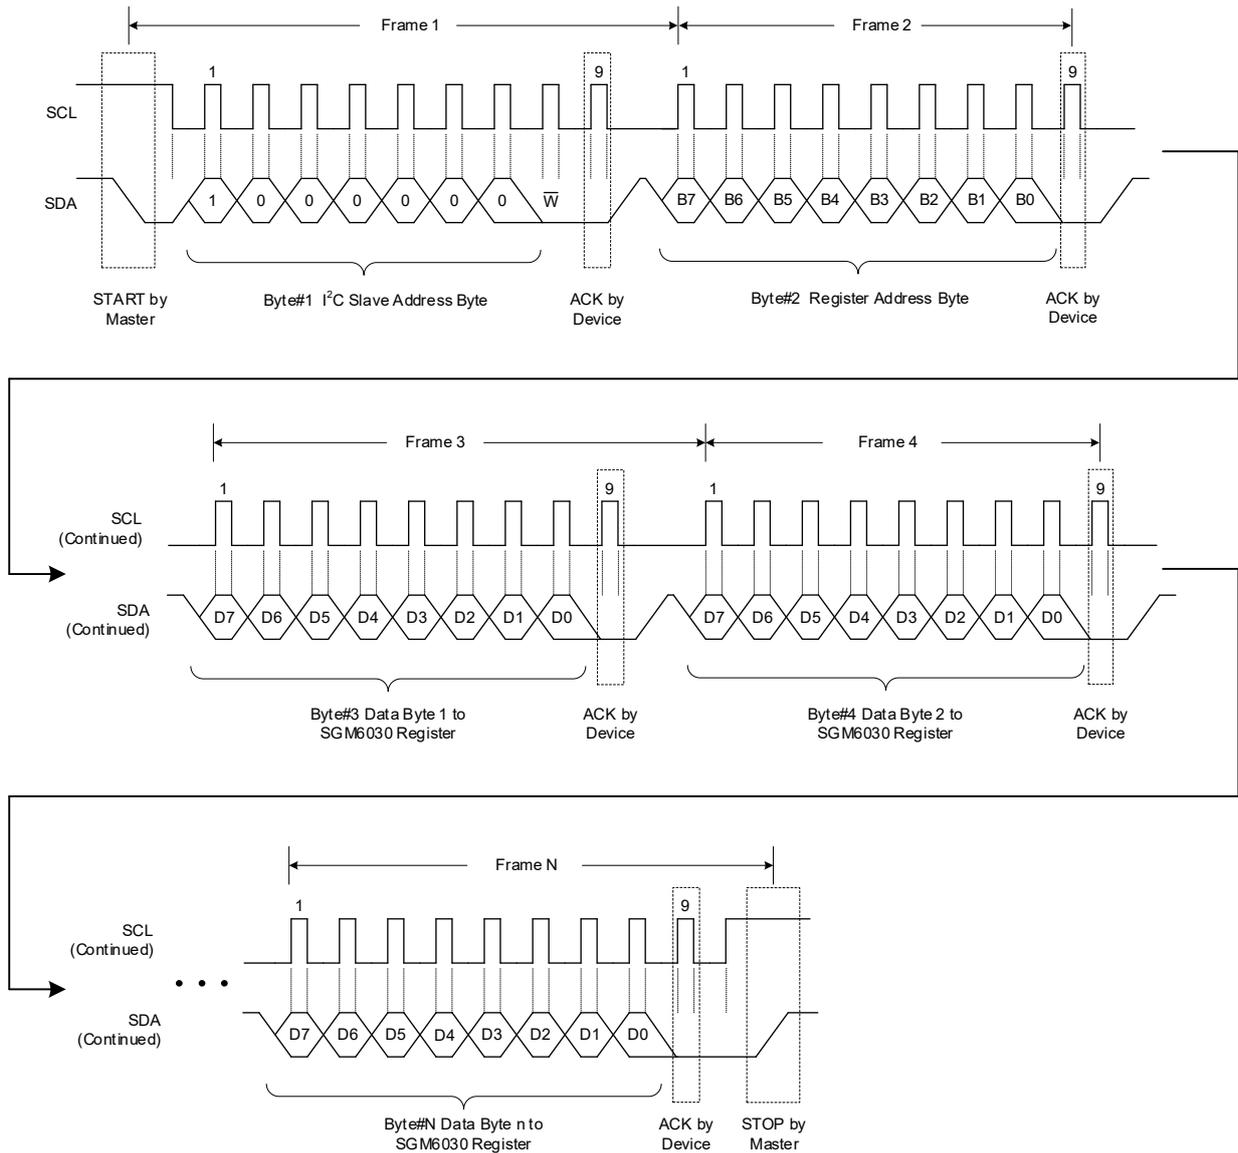

Figure 10. A Multi-Write Transaction
**WRITE:** If the master wants to write in the register, the third byte can be written directly as shown in Figure 10 for a single write data transfer. After receiving the ACK, master may issue a STOP condition to end the transaction or send the next register data, which will be written to the next address in a slave as multi-write. A STOP is needed after sending the last data.